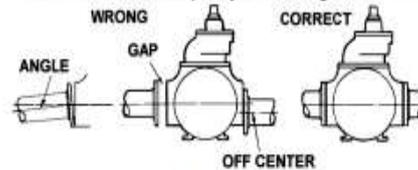

Figure 1
8. Check alignment of pipes to pump to avoid strains which might later cause misalignment. See Figure 1: Unbolt flanges or break union joints. Pipes must not spring away or drop down. After pump has been in operation for a week or two, completely recheck alignment.